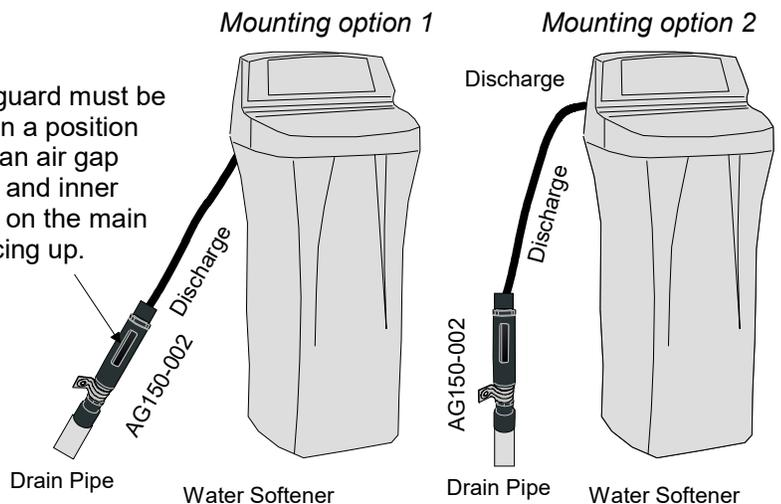

Fig 1-2
2. The AG150-002 is a gravity flow device and must have an outlet poly tubing feeding directly to a drain without kinks or bends. The AG150-002 can be oriented anyway between 45° and vertical with inlet port elevated above the outlet port. Install the AG150-002 so that the C/L is one inch or more above the flood level of sink, sump, floor drain, floor grate, or standpipe. (See FIG 1-2)